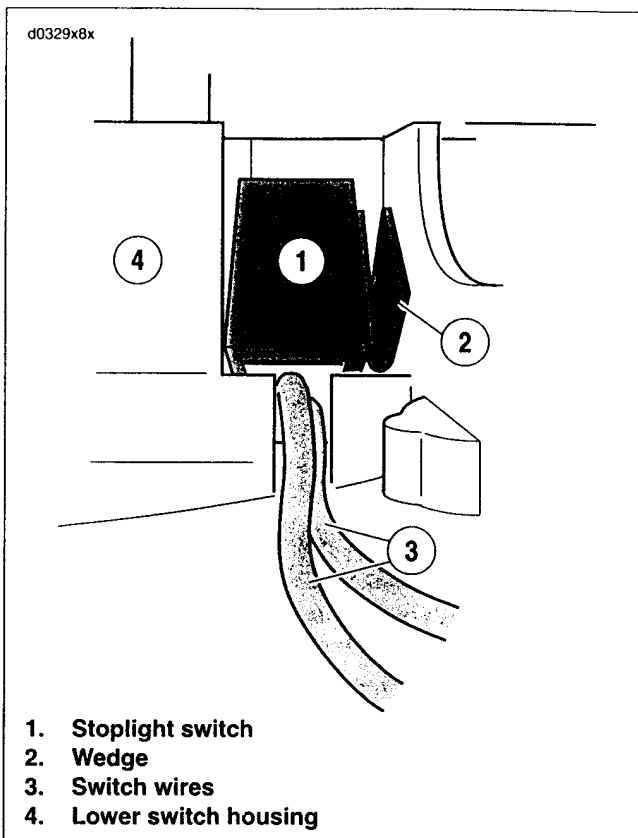

Figure 8-82. Install Stoplight Switch
6. See Figure 8-82. Push down on switch (1) so that it bottoms against housing and wires (3) run in groove at base of cavity. With the concave side facing outward, insert wedge (2) between switch and outboard side of switch housing.